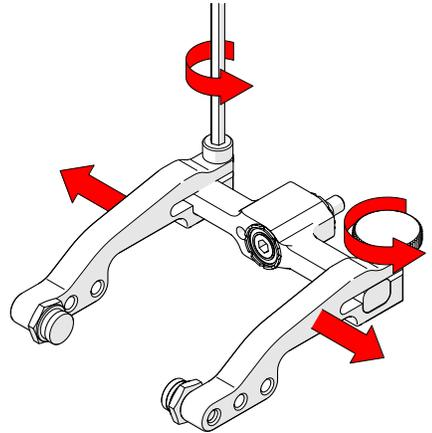

Fig. 116 - Remove arms
2. Loosen the probe holder arm adjustment knob and arm clamp screw. Slide the arms from the yoke (Fig. 116).